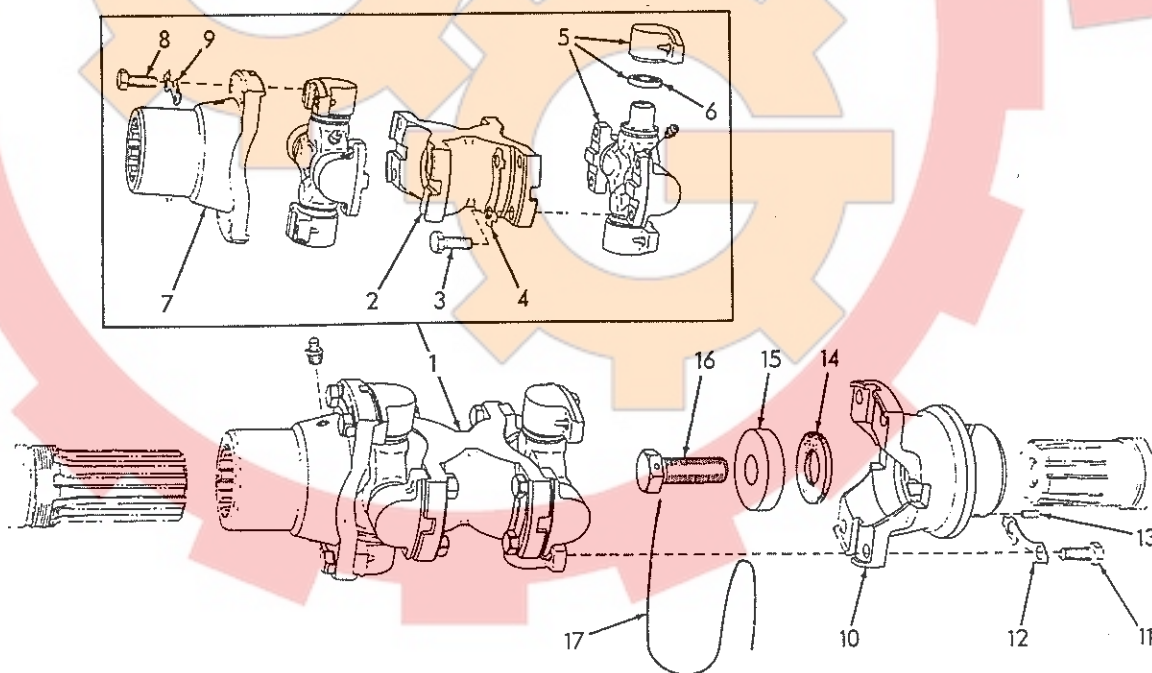

Fig. 29 Universal Joint
3. Refer to Fig. 29, unlock and remove capscrews (3); remove front and rear spider assemblies (5) from connecting yoke (2).
1. Refer to Fig. 29, install new seal washer (6) in each bearing cup; lubricate bearings with light coat of grease and install bearing cups on spider journals from which they were removed. Make certain bearings are fully seated on spider journals. Install front and rear spider assemblies (5) on connecting yoke (2); secure with attaching capscrews (3). Lock capscrews with locking wire.